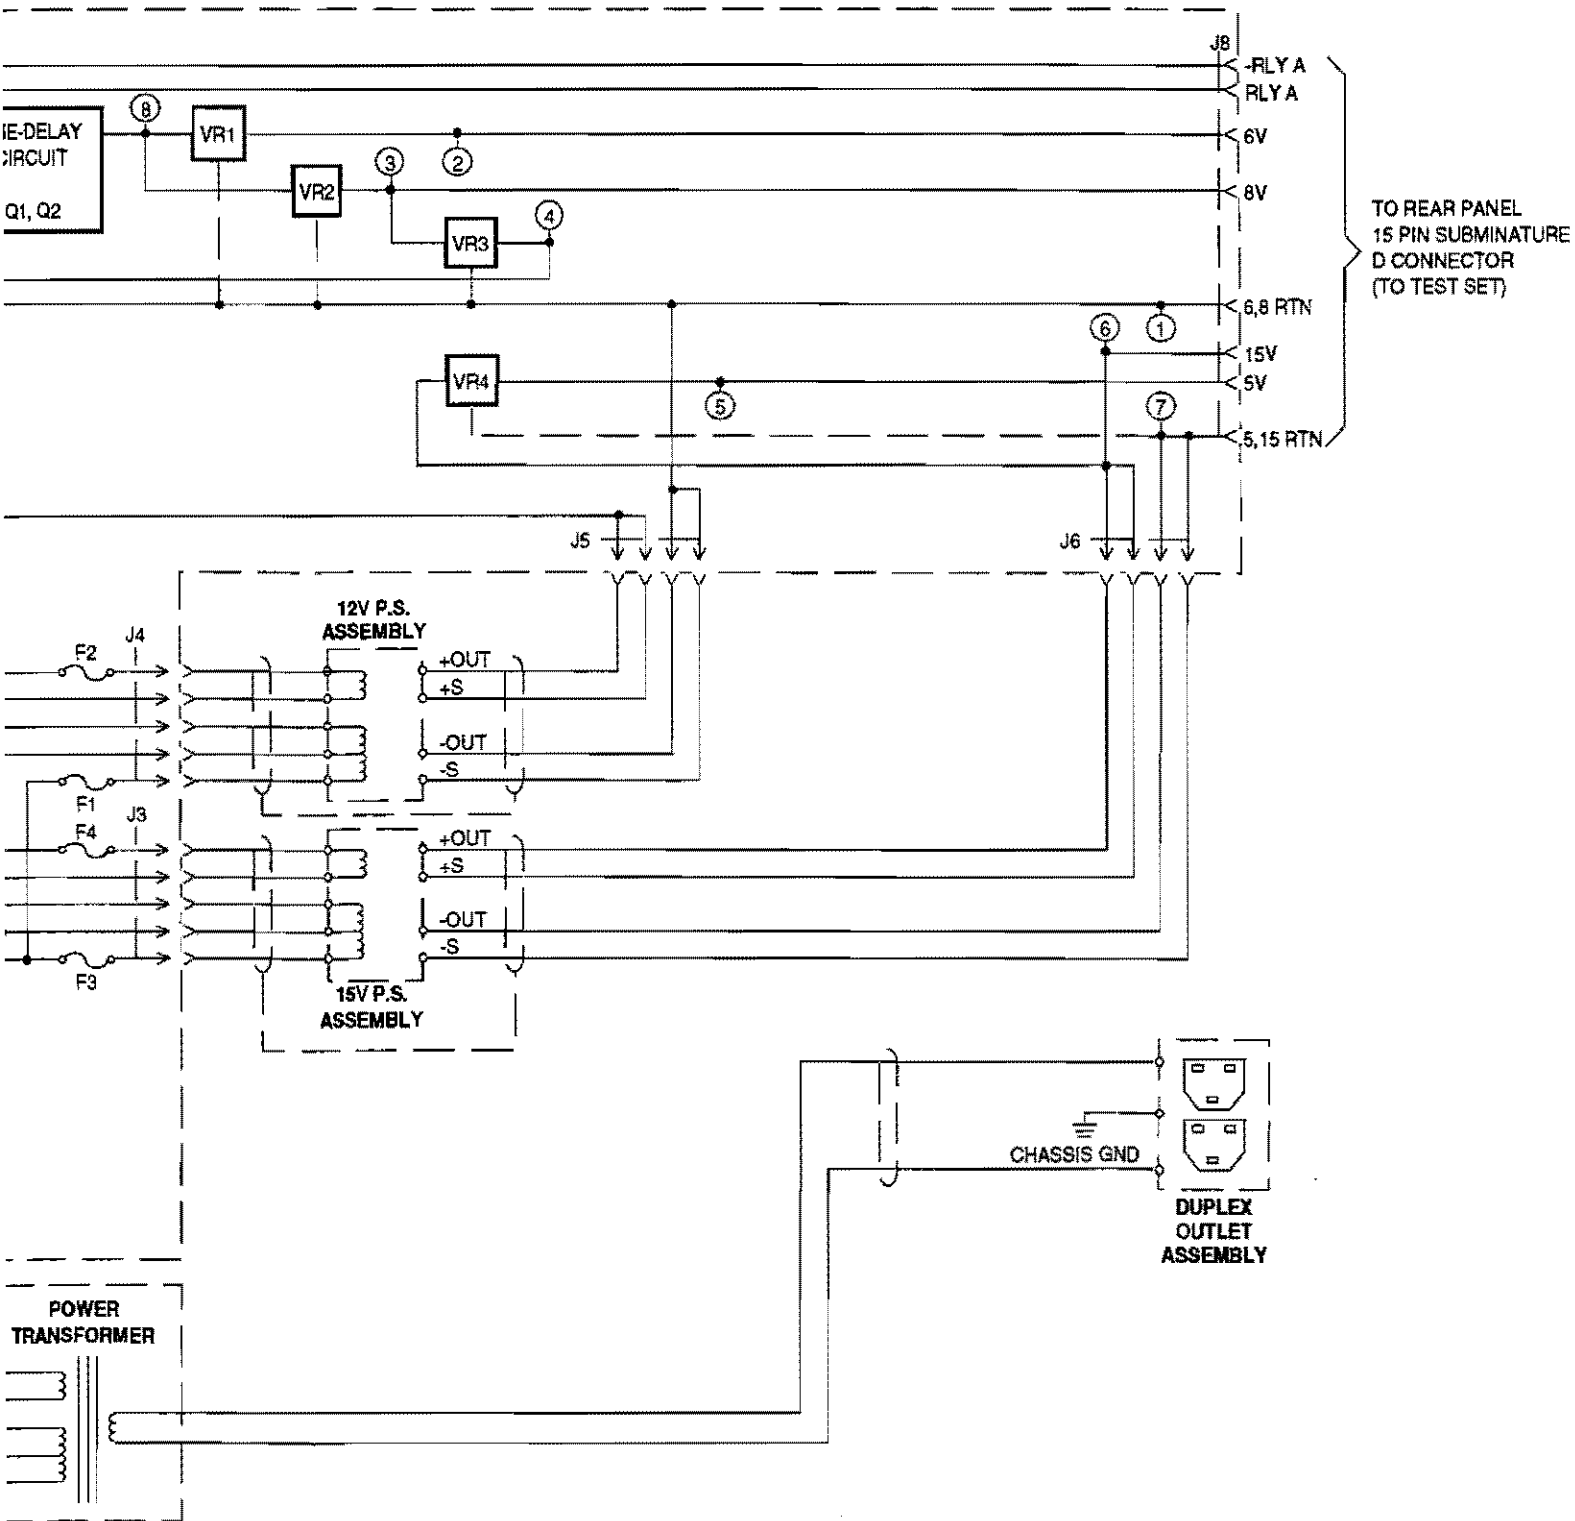

Figure B-4. Interconnection Diagram
- Step 6.** If there are no dc voltages present at the test points, *carefully* determine if line voltage is present between fuses F1 and F2 and between F3 and F4 of the A100 PCB. If line voltage is not present, disconnect power cord and check the Line Module Assembly fuse (Figure B-4).